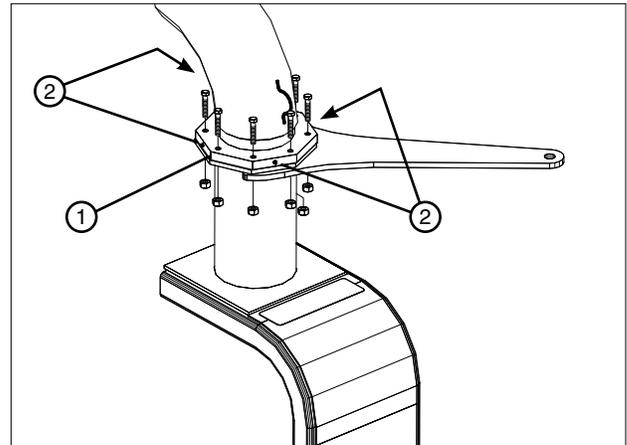

Figure 65-1 1. Low Profile Bearing Flange
1. Lubricate the four grease fittings on each bearing flange. See Figure 65-1.